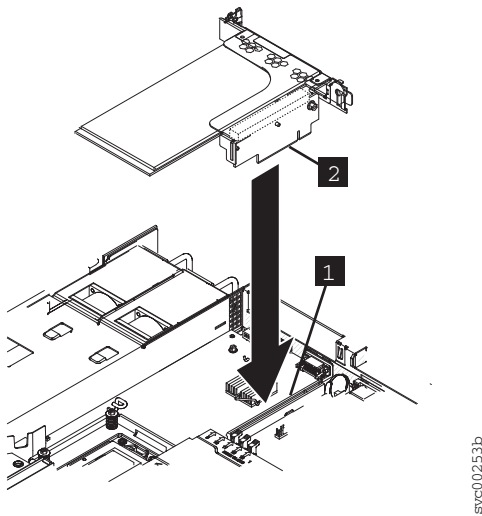

Figure 219. Replacing the 10 Gbps Ethernet riser-card assembly for the 2145-CG8
4. Align the 10 Gbps Ethernet riser-card assembly connector with the PCI slot 2 connector on the system board, as shown in Figure 219.